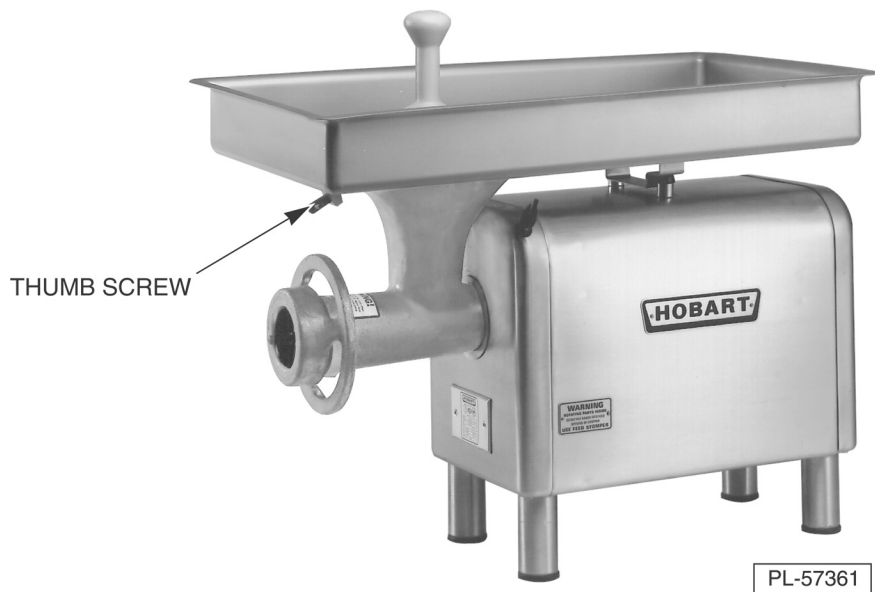

Fig. 2
**NOTE:** On the model 4822 with funnel-shaped cylinder, tighten the feed pan thumb screw (Fig. 2), holding the pan securely to the chopper cylinder assembly.